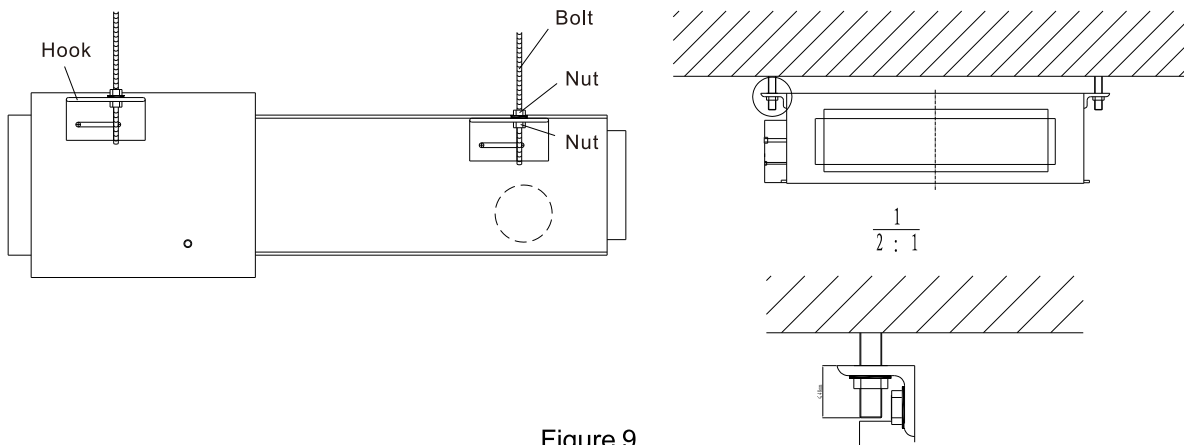

Figure 9
c. The indoor unit is mounted on the ceiling, See Figure 9 .